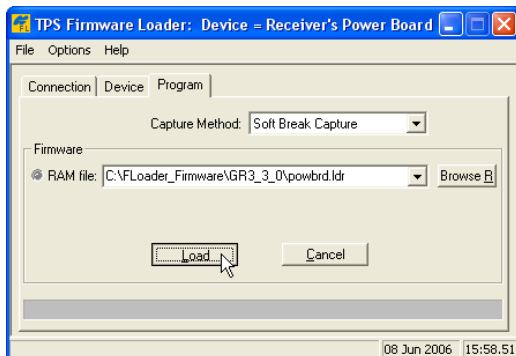

Figure 5-22. Program Tab Settings
6. Click the **Program** tab and set the *Capture Method* to “Soft Break Capture” (recommended) (Figure 5-22).
7. Browse for and select the Power board’s RAM file (Figure 5-22).